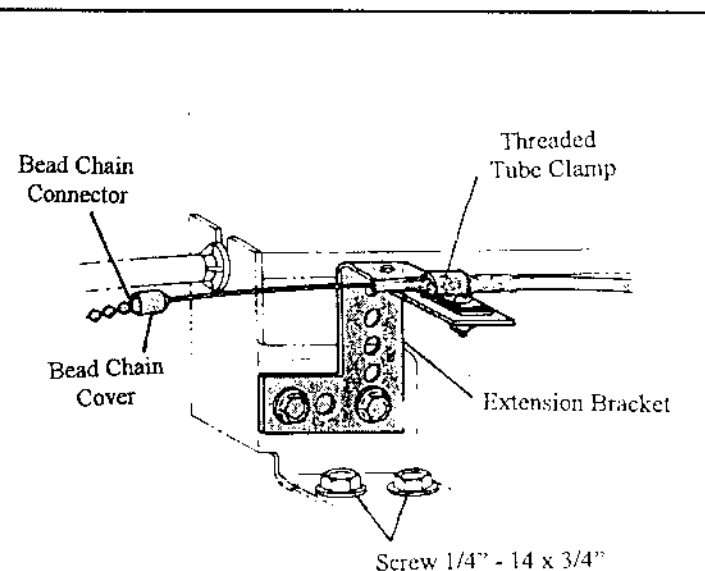

FIGURE 29
4. The **Threaded Tube Clamp** may also be used to anchor the **Cruise Cable** using the **Extension Bracket**. (Figure 29)